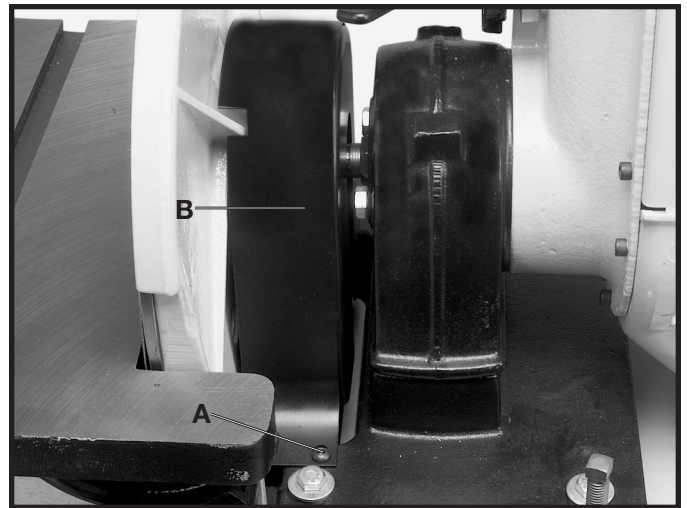

Fig. 20
1. Remove two screws, one of which is shown at (A) Fig. 20, and remove belt guard (B).